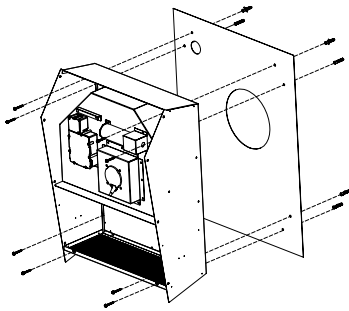

FIG. 14
This product is to be installed by a qualified technician. Using the appropriate drilling jig [Fig. 14] drill all the holes marked on it into the external wall, paying attention not to damage water pipes or power lines.
- › The corresponding plastic dowels supplied [Fig. 14].